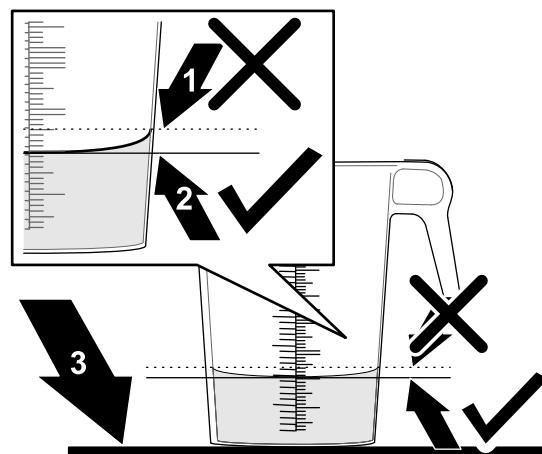

Figure 45
6. Set the graduated container on a level surface and note the fluid volume (Figure 45).